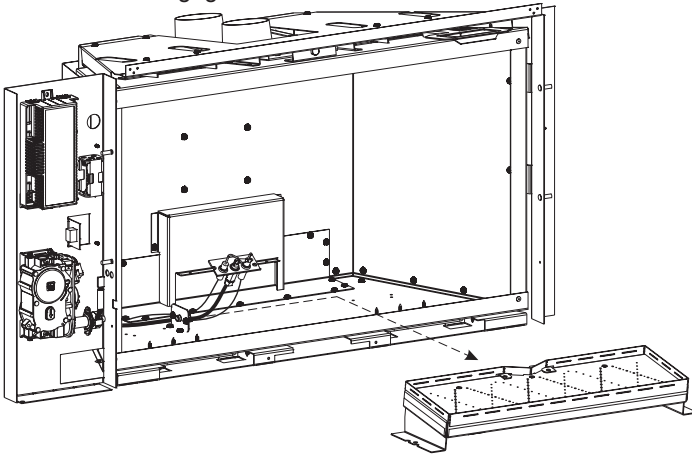

Figure 46
14. Slide the burner to the right and lift out. **See Figure 46.**